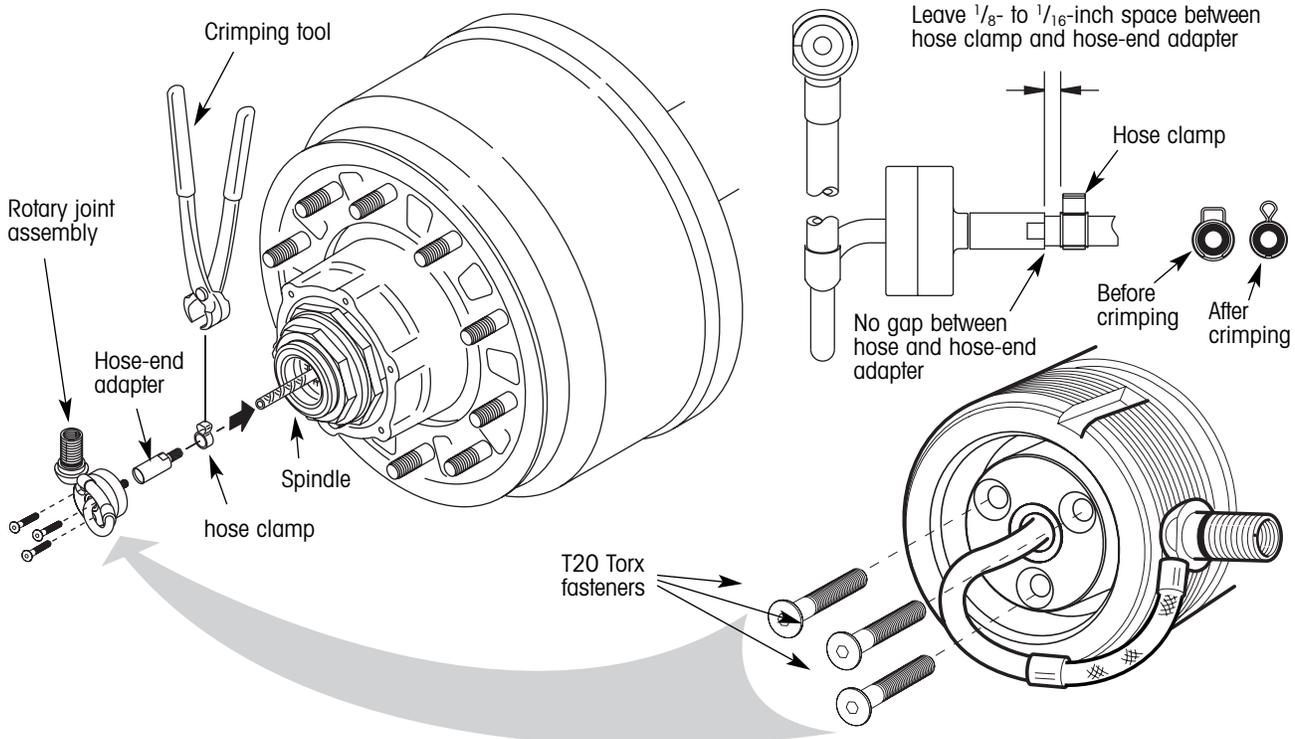

Figure 15. Rotary joint installation
1. On one end of the axle, place the hose clamp onto the braided axle hose sticking out of the spindle plug (figure 15).
2. Slide the barbed end of the hose-end adapter completely into the end of the braided hose assembly until the hose bottoms on the adapter. There must not be any gap between the hose and the hose-end adapter (figure 15).
3. Position the clamp over the barbed end of the hose-end adapter. Leave a $\frac{1}{8}$ - to $\frac{1}{16}$ -inch space between the clamp and the hose-end adapter as shown in figure 15. Using a crimping tool (Oetiker® pliers), squeeze the clamp to tighten the hose to the hose-end adapter. The clamp inner surfaces must touch for a proper seal (figure 15). Continue with step 4.
6. Insert the three T20 Torx fasteners into the rotary joint assembly and fasten to the spindle plug (figure 15). Tighten the fasteners to 45 ± 5 in. lbs. ($5 \pm \frac{1}{2}$ N•m) of torque.